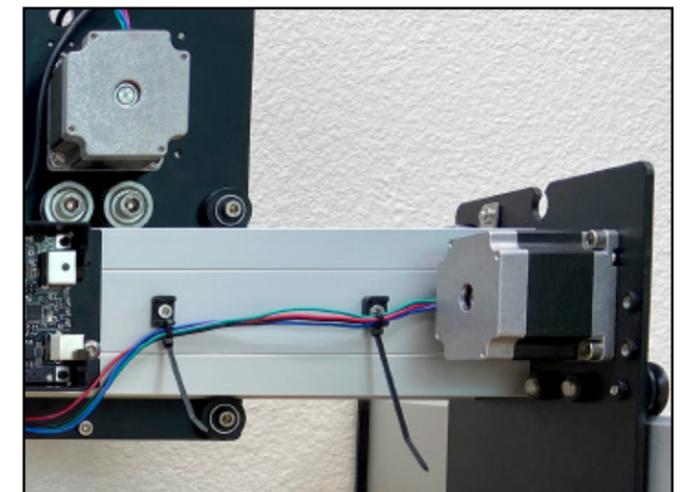

Figure 7-10
4. Use two (2) cable ties to attach the Y1-motor lead cable to the lower attachment points on the remaining two-mounts. See **Figure 7-10**.